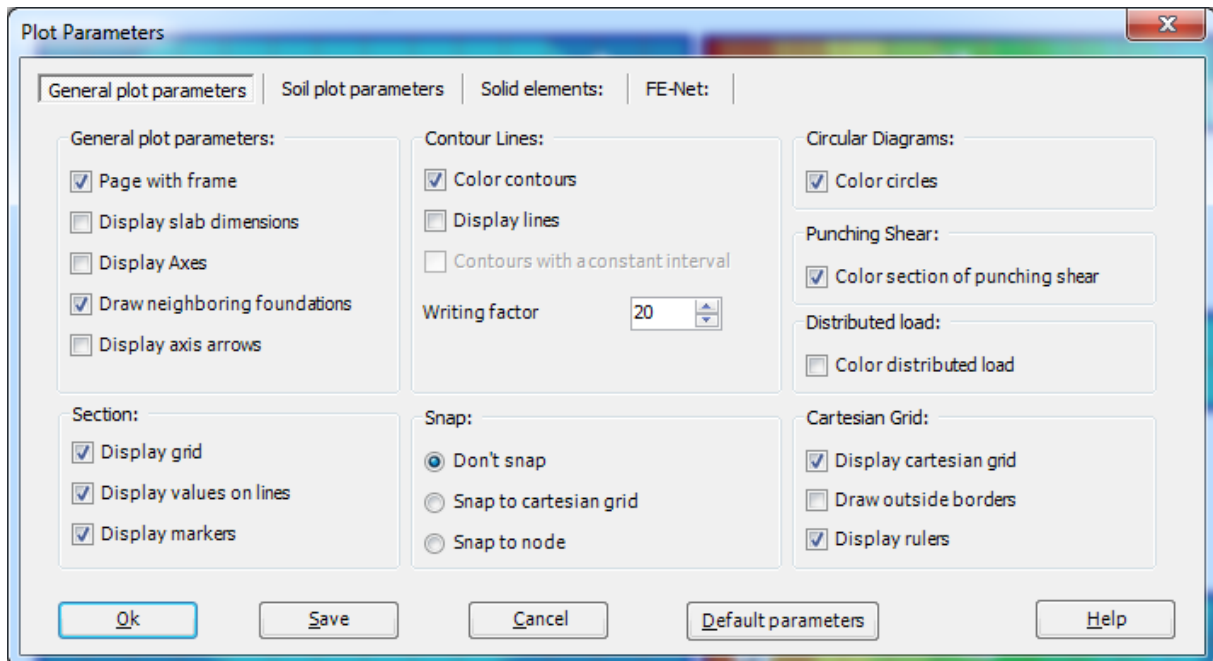

Figure 9.41 "Plot Parameters" dialog box
- Choose "Plot Parameters" command from "Setting" Tab. "Plot Parameters" dialog box in Figure 9.41 appears
- check the option "Draw neighboring foundations" from "General plot Parameters" menu as shown in Figure 9.41